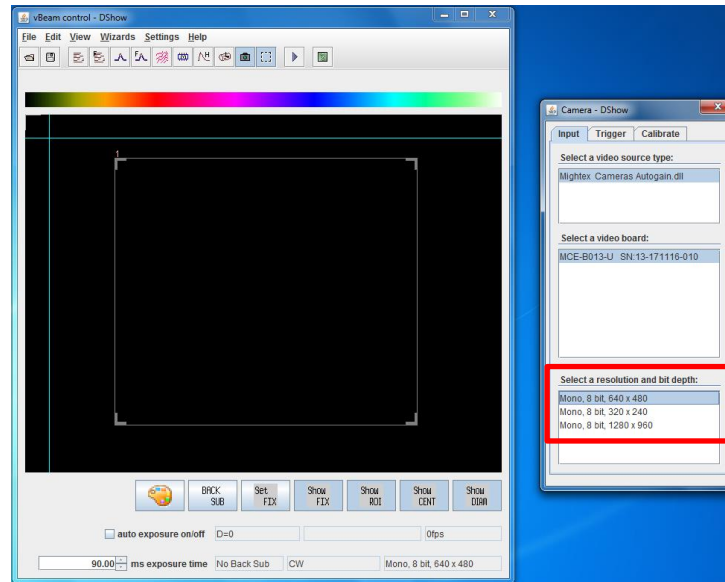

Figure 33: Resolution and bit depth selection
- After clicking the part number, the software will generate options under the bottom box labeled “Select a resolution and bit depth”. Click on the desired resolution (Figure 33).